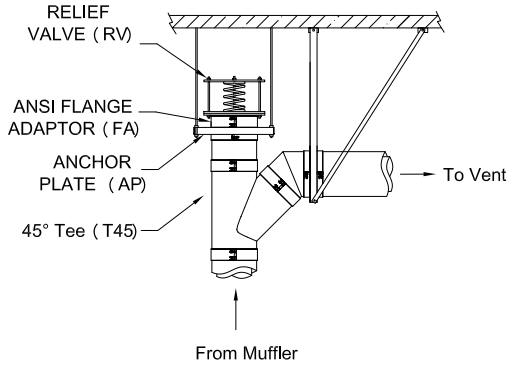
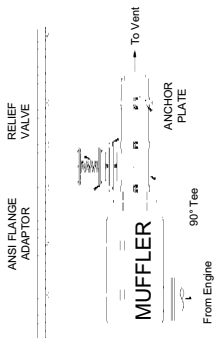

Figure 75b - Typical installations with a 45° Tee and a ANSI Flange Adaptor (FA)
Figure 75c - Typical installations with a 90° Tee and a ANSI Flange Adaptor (FA)
1. The Relief Valve (RV) should be located in the beginning of the system.
2. The orientation of the Relief Valve must be positioned upright, as shown on the Figure 75b with a 45° Tee (T45) or on Figure 75c with a 90° Tee (T90).
3. The Relief Valve must be connected to our ANSI Flange Adaptor (FA). Bolts, washers, nuts, and gasket (supplied by others) will provide a complete gas tight connection to the 125/150 lb. ANSI flanged Flange Adapter.
5. The Relief Valve (RV) must be supported independently of the rest of the exhaust system. The best method to accomplish this is to locate an Anchor Plate (AP) support at the joint between the ANSI Flange Adaptor (FA) and the adjacent Tee (T45 or T90). It is crucial that the Anchor Plate (AP) is properly secured to building structures so that it can withstand the forces generated in case of delayed fuel ignition.